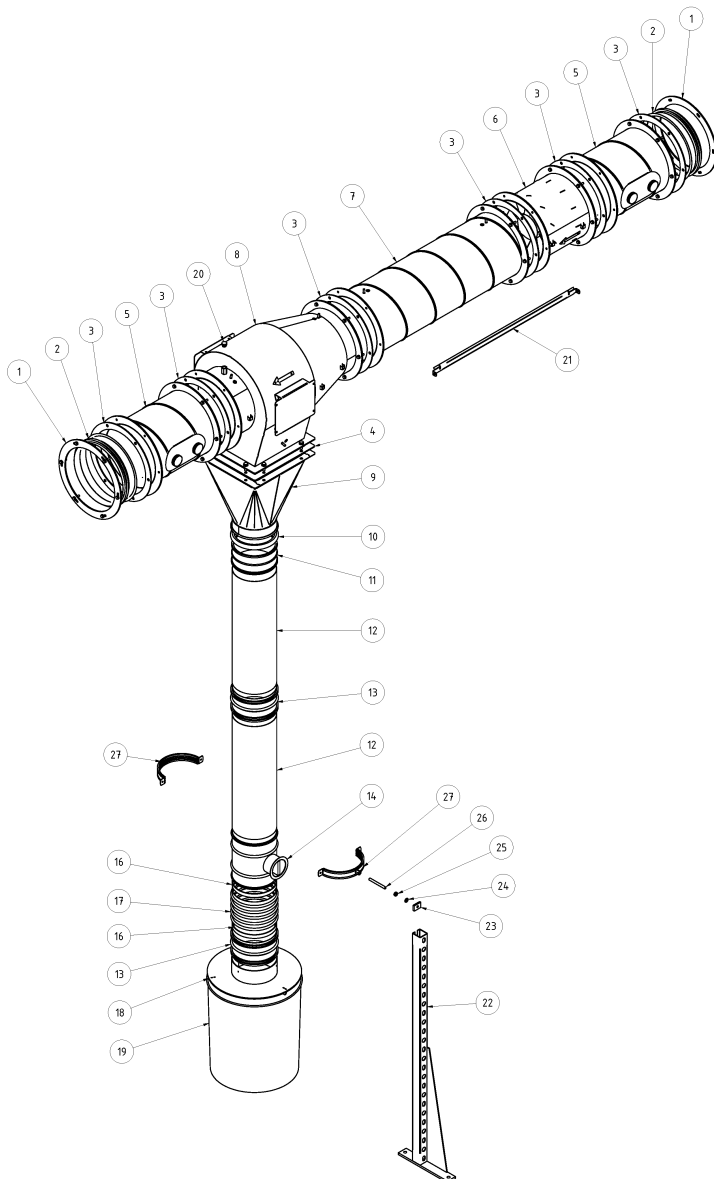

Figure 2, Mechanical Assembly (rear view)
- Assemble the individual components of the pre-separator as shown in Figure 2 and fasten it with the screws provided, the minimum distances (min 600mm) to parts of buildings in the area of passenger traffic must be observed.
- Ensure the correct direction of flow for the swirl nozzle (item 6) and the annular gap Spark trap (item 8), they are marked with appropriate flow arrows, which must be observed!
- The formed components (item 12, 13, 14) must be attached with each other at each connection point by three evenly circumferentially arranged drill screws.
- The cable tray (item 21) is only necessary in conjunction with an automatic Spark detection (SparkTRAP detect) and must be only installed as a cable guide.
- Turn the plug with gasket (1/4 ") (item 20) into the sleeve socket of the annular gap Spark trap, item 8.
The grounding cable on the downpipe (item 12) (see Figure2) is fastened with drill screws. After assembly, the grounding of the pre-separator must be inspected with a continuity tester.
Proceed as follows (see also Figure 2):